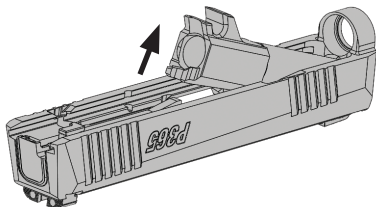

Figure 5
6. Grasp the barrel lug and lift the barrel from the slide (Figure 5).